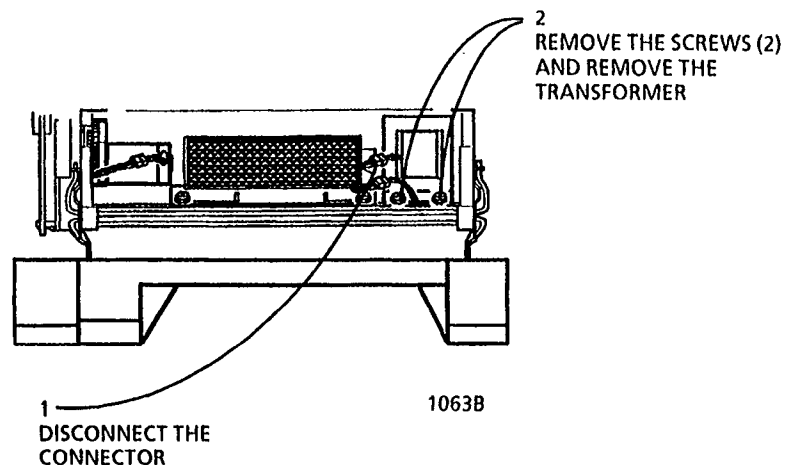

Figure 1. Removing the Transformer (TR1)
3. (Figure 1): Remove the Transformer.